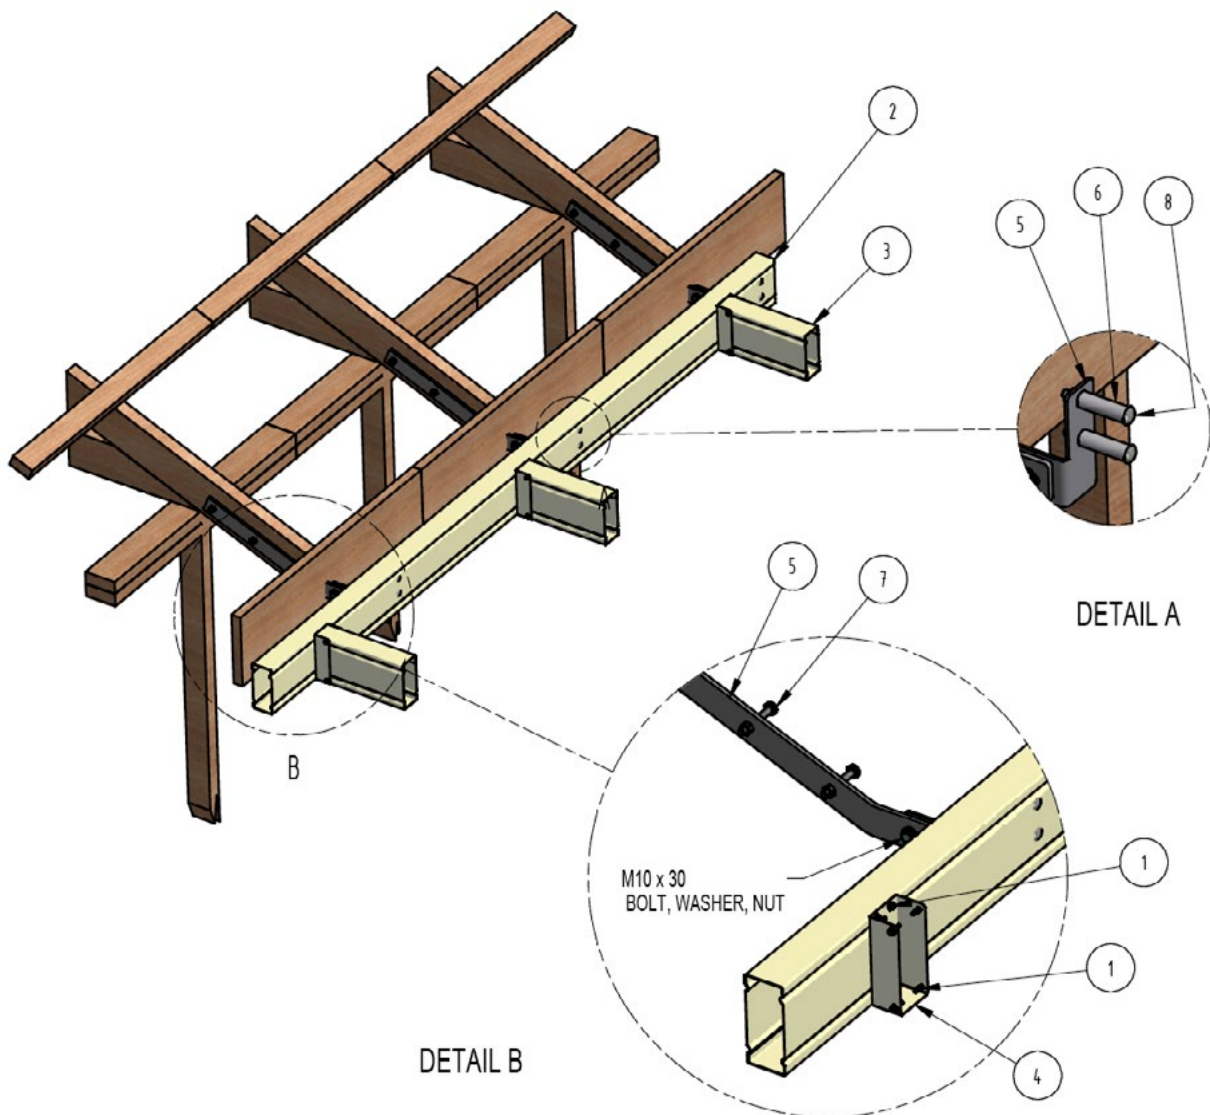

Figure A38
**Through Fascia Beam (See Figure A38)**